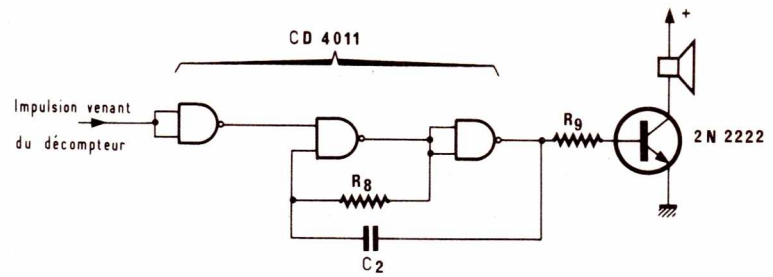

Figure 4
3) L'AVERTISSEUR SONORE (figure 4)